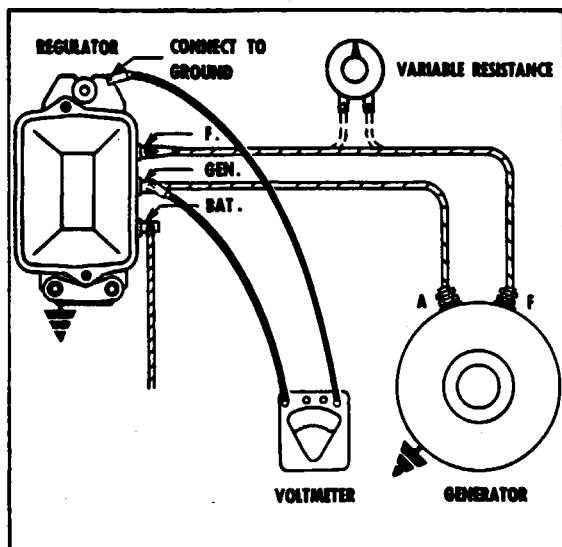

Figure 11-12. Checking Cutout Relay Closing Voltage
c. **Closing Voltage:** Connect regulator to proper generator and battery. Connect voltmeter between the regulator GEN terminal and ground. (Refer to Figure 11-12.)
Method 2: Make connections as in Step c; but, in addition, add a variable resistor connected into the field circuit. (Refer to Figure 11-12.) Use a 25-ohm - 25-watt resistor. Operate generator at medium speed with variable resistance turned all in. Slowly decrease (turn out) the resistance until cutout relay points close. Note closing voltage. With cover in place, slowly increase (turn in) resistance to make sure points open.